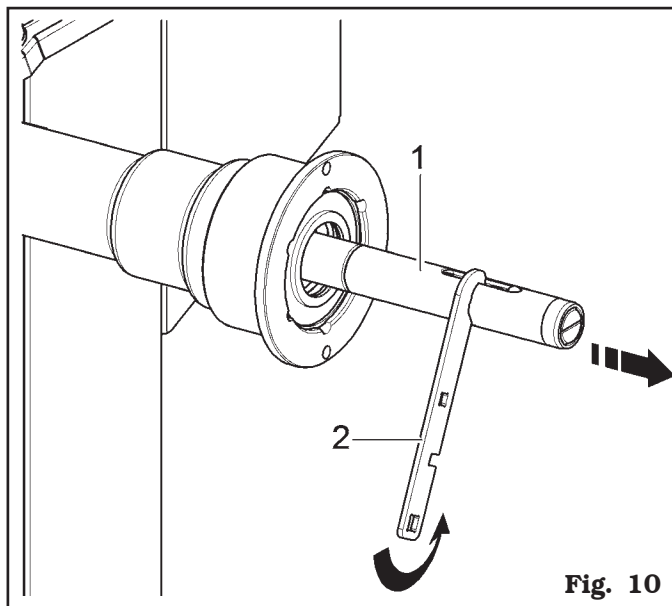

Fig. 10
2. Release the pneumatic shaft (**Fig. 10 ref. 1**) using the wrench provided (**Fig. 10 ref. 2**).